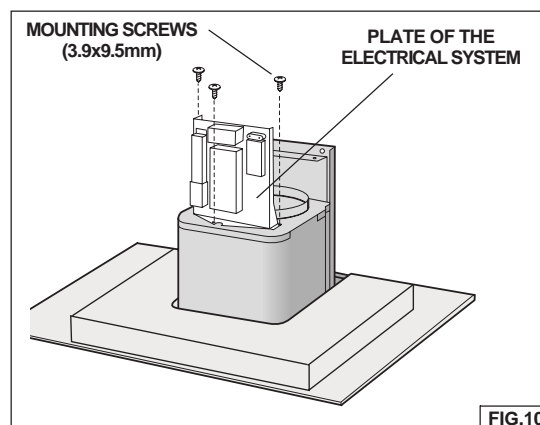

FIG.10
4. Mount the electrical system plate attaching it with (3) 3.9x9.5mm mounting screws. Fig. 10.